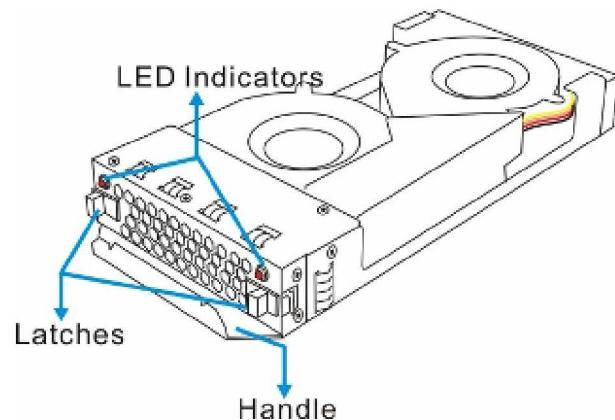

Figure 1-13: Cooling Module
The FALCON III is equipped with two (2) 1U, dual-fan, redundant, hot-swappable cooling modules (IFT-9273CFanMod). They are installed in the cooling module slots located in the lower section of the PSU modules (see **Figure 1-13**). Two (2) LEDs on the rear panel indicates the internal cooling fans status. Use the latches and handle to insert and remove the cooling module from the subsystem.